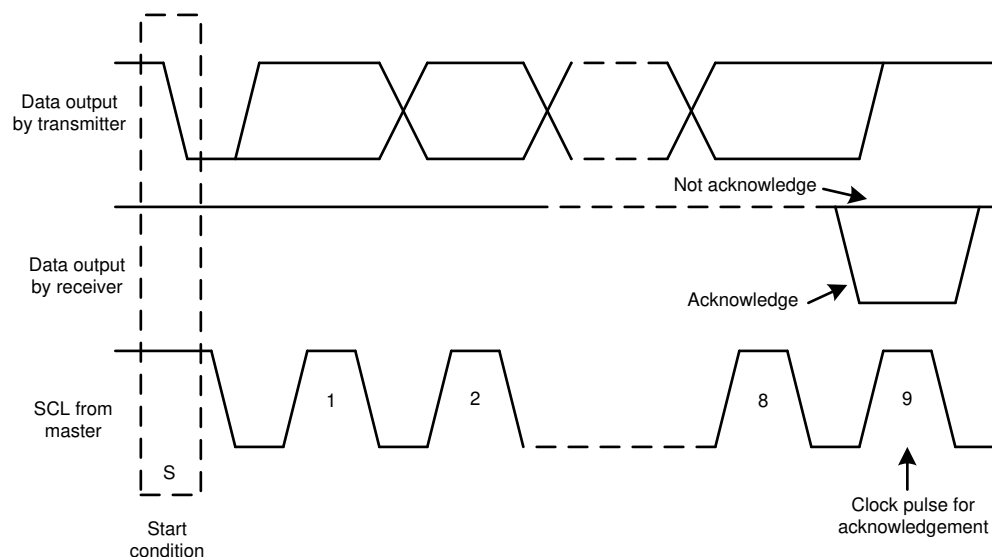
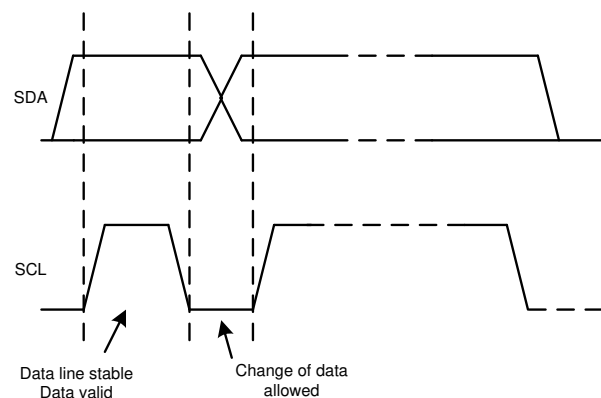

图 7-2. Acknowledge and Not Acknowledge on the I²C Bus
图 7-4. Bit Transfer on the I²C Bus
Other than specific timing signals, the I²C interface works with serial bytes. At the end of each byte, a ninth clock cycle generates and detects an acknowledge signal. Acknowledge is when the SDA line is pulled low during the high period of the ninth clock cycle. A not-acknowledge is when the SDA line is left high during the high period of the ninth clock cycle as shown in Figure 7-2.
2. The master then generates the SCL pulses, and transmits the 7-bit address and the read/write direction bit (R/W) on the SDA line. During all transmissions, the master makes sure that data are valid. A valid data condition requires the SDA line to be stable during the entire high period of the clock pulse, as shown in 图 7-4. All devices recognize the address sent by the master and compare the address to the respective internal fixed address. Only the slave device with a matching address generates an acknowledge by pulling the SDA line low during the entire high period of the ninth SCL cycle, as shown in 图 7-2. When the master detects this acknowledge, the communication link with a slave has been established.
4. To signal the end of the data transfer, the master generates a stop condition by pulling the SDA line from low-to-high while the SCL line is high (see 图 7-4). This action releases the bus and stops the communication link with the addressed slave. All I²C-compatible devices recognize the stop condition. Upon receipt of a stop condition, the bus is released, and all slave devices then wait for a start condition followed by a matching address.